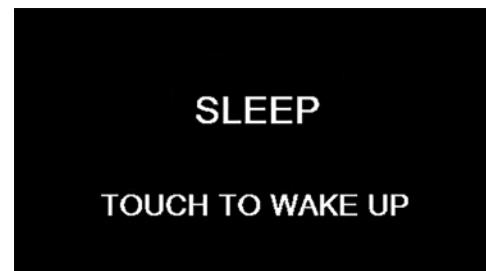

Fig. 48 - Main screen SLEEP display.
9. During normal operation, if the machine is idle for the programmed time, then the main screen displays, "SLEEP" "TOUCH TO WAKE UP". (Fig. 48)